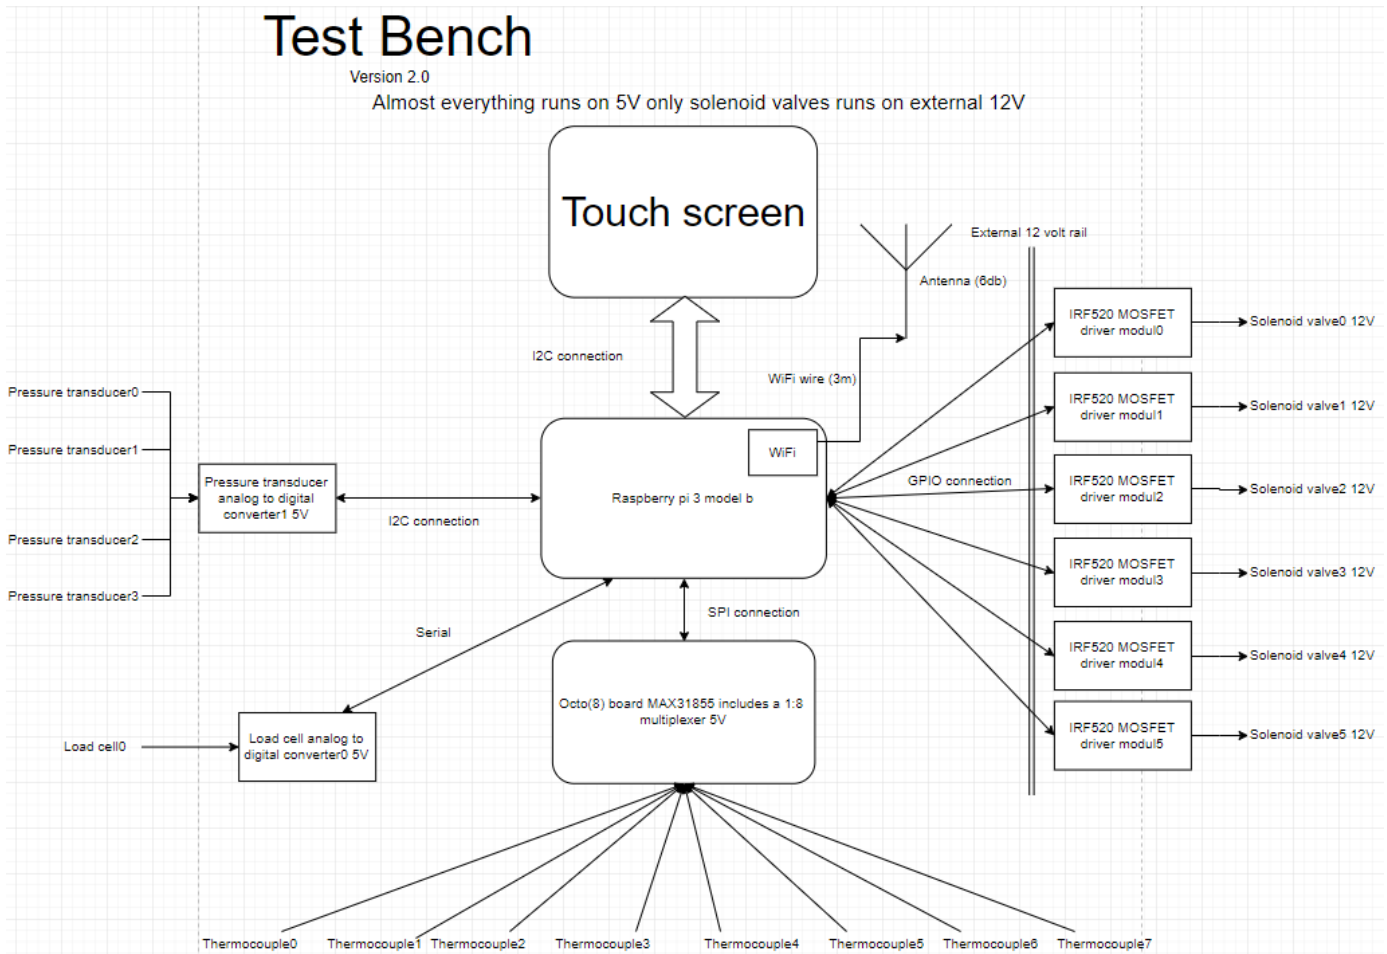

Figure 1: Overview of the Test bench for the N2O Cooler electronics
Figure 1. shows the overview of the test bench for the whole electronics system. There are 4 main parts the Raspberry Pi 3 model b, which is the microprocessor, the touch screen used for the GUI and controlling the system, The WiFi extension antenna, and the rest is the sensors and solenoid valves. There are 3 different sensors; in this case 1 load cell, 8 thermocouples and 4 pressure transducers. All parts run on a 5 volt rail beside the solenoid valves they run on an external 12 volt rail. The Antenna is extend by a 3 meter WiFi wire which is attached to a connector this is going to be manually soldered onto the raspberry pi board. Each sensor type has a specific chip controller, that is used to convert the signal from analog to digital, and send the data through either a SPI, I2C or serial connection. For the Thermocouples there is also a 1:8 multiplexer that reads the signal from all 8 thermocouples and send it to the on board microchip on the Octo (8) board. The touch screen has its own board that is going to help the Raspberry pi to render the images on the 7" screen, the connection between the two board is done by I2C.
mocouples. "tc" represents the number of thermocouples starts from 0 to 7(see also figure 1), "tempC" and "internalC" are two different ways of measuring temperature. On the chapter about GUI we are going to show how the temperature increases and decreases it is easier to see it on the GUI.